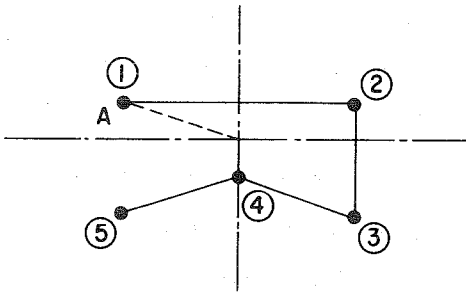
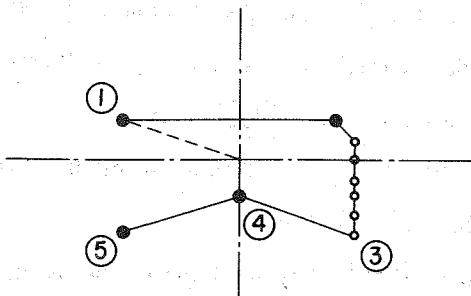

Fig. 2
Fig. 3
Step 4 Press the keys until the needle reaches position A shown in Fig. 2.
Step 7 Using the and keys, move the needle to confirm that the position of the pattern has moved as illustrated in Fig. 2.
Step 8 Press the and keys until the needle reaches position ② shown in the figure.
Step 10 Now the LEDs will indicate , which means that the Linear stitching from point ② to point ③ will be changed to point stitching. Then press the key.
Step 12 Move the needle using the **Forward** and **Backward** keys, and confirm that the needle entry point has been erased as illustrated in Fig. 3.